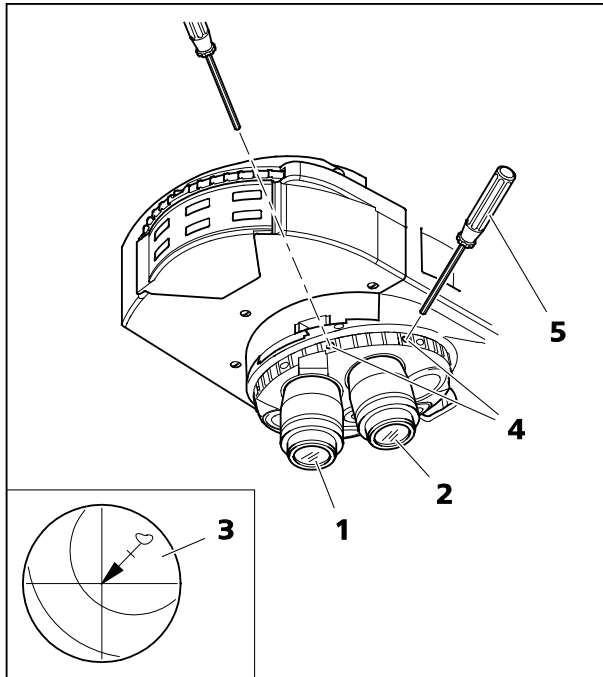

Fig. 69 **Centering rotary stage and objectives**
- First turn the nosepiece to swing the non-centerable objective mount (Fig. 69/1) (mount with DIC slot) into the light path. Center the rotary stage for the non-centerable objective mount as described in 3.36.3.
objective mount into the light path (Fig. 69/2).
- Rotate the stage to determine the maximum specimen deflection (Fig. 69/3, tip of arrow) to the eyepiece reticles.
- Turn each of the two centering screws on the nosepiece (Fig. 69/4) using an SW 1.5 Allen key (Fig. 69/5) to move the specimen detail by half of the arrow length towards the reticle center. Check whether the specimen detail moves when the stage is rotated again; repeat the procedure, if required.